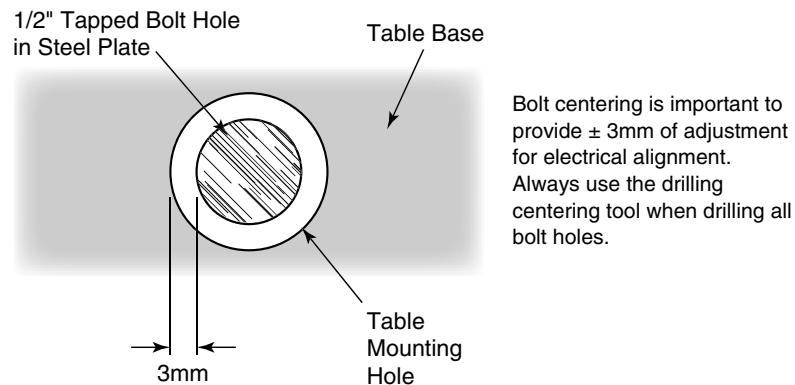

Figure 1-42 Center tapped holes under mounting holes in table base
- 3.) Fixed site Installations must be centered under mounting holes in table base, with 3mm of space visible all of the way around the tapped bolt hole. Figure 1-42.